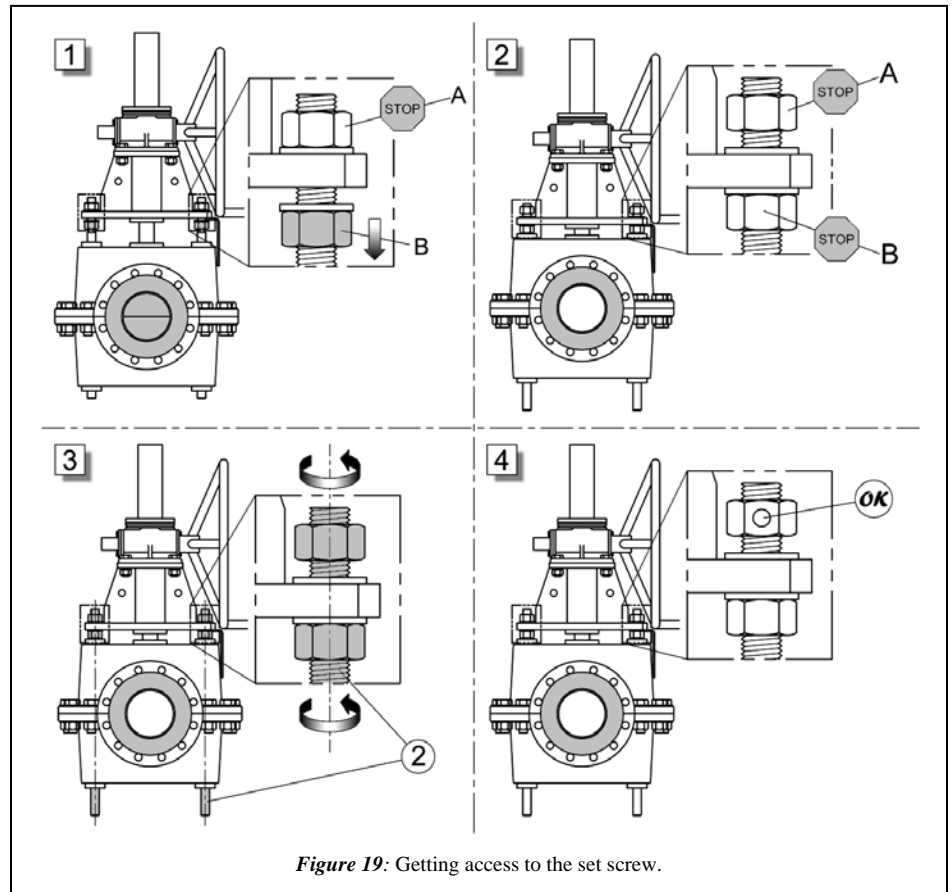

Figure 19: Getting access to the set screw.
- spin both B-nuts down at least one turn (box 1 in Fig. 19).
- actuate the RF Valve® open (box 2 in Fig. 19).
- turn both the pull bar ② and the A-nut simultaneously as if they were one part until the hole in the A-nut is accessible (boxes 3 and 4 in Fig 19). IT IS VERY IMPORTANT THAT THE A-NUT DOES NOT MOVE/TURN RELATIVE TO THE PULL BAR!